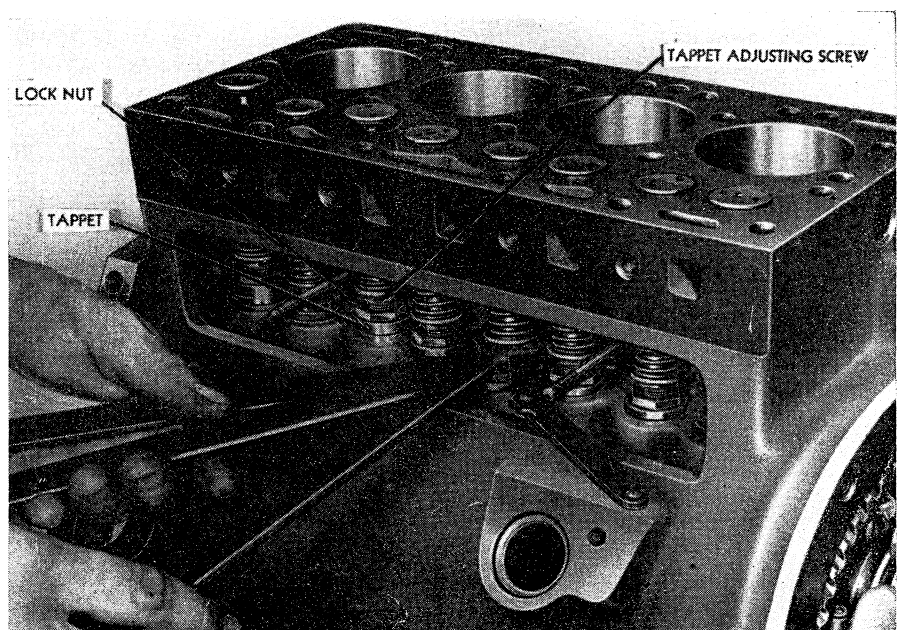

Fig. MH5—Adjusting tappets on Continental N62 engine. A three wrench operation.
16. **ADJUST.** Adjustment of tappet clearance is a three-wrench operation (Fig. MH5). Recommended gap is .012 cold for inlet and exhaust. To ad-